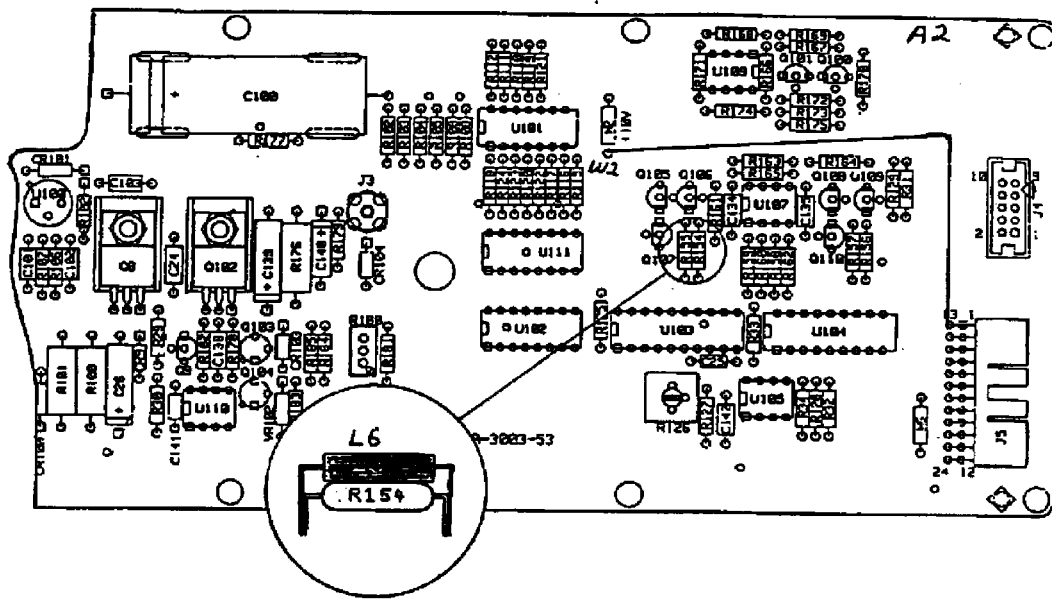

Figure 1. A2 Power Supply/Controller Board
1. Jumper A2W2 with 26 ga. wire to A2J5 pin 13. See Fig 1.
4. Load A2L6 "piggy back" onto A2R154 and solder into place. See Fig 1.